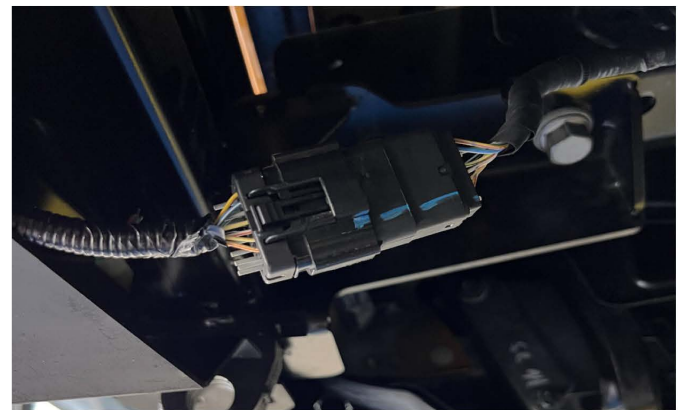

Fig. 34
31. Connect OE wiring of bumper (Fig. 34)